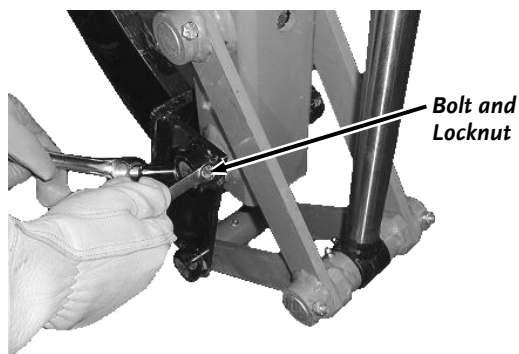

Figure 40
6. Install the two Bolts into the Linkage and Bucket or Ripper Tooth and secure with two Locknuts (**Figure 40**).